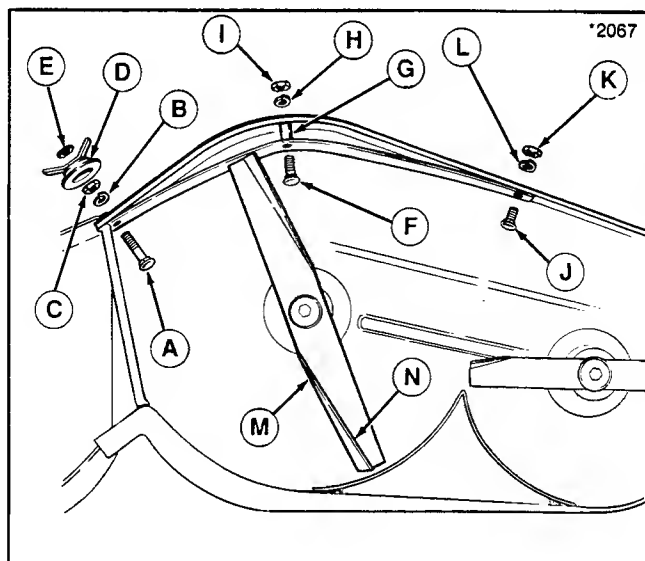

Figure 1.
2. Position baffle with notched end towards discharge side opening. Install all hardware as shown in figure 1. The notch at the discharge side of baffle must be positioned to clear stone guard weldment. Tighten hardware at the discharge side of baffle first [carriage bolt (A), lockwasher (B), and nut (C)] and then at middle location [capscrew (F), lockwasher (H), and nut (I)] and finally at inside location.